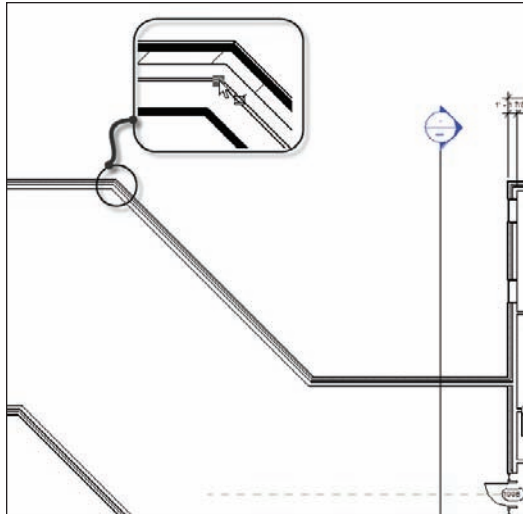

FIGURE 5.10 Press the Tab key to select the point shown.
4. Zoom in close to the intersection of the two walls, shown in Figure 5.10.
5. Hover your pointer over the core intersection, as shown in Figure 5.10.
7. When the square grip appears, pick it (left-click), as shown in Figure 5.10.